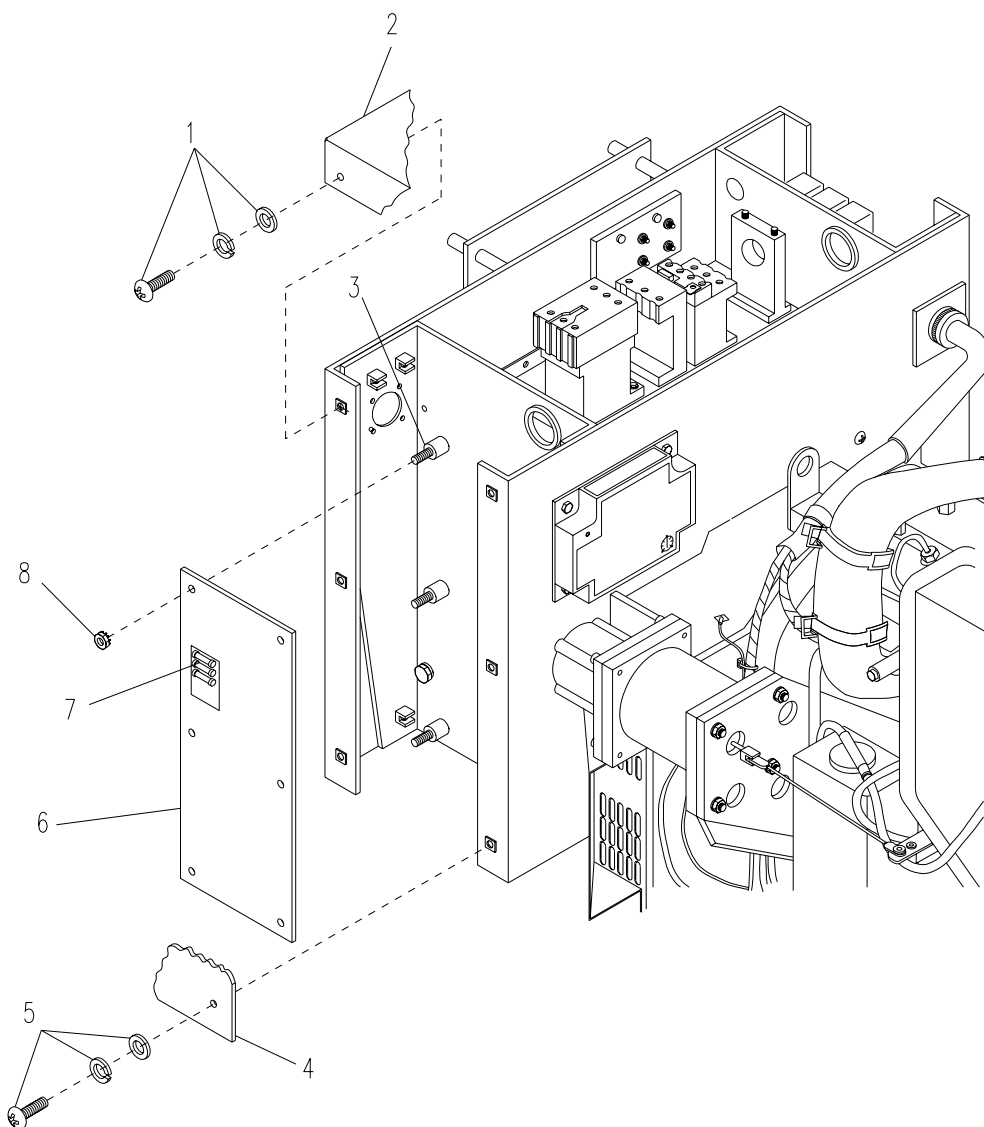

Figure 5-12. Relay Board
- a. Remove four screws (JTACS), or slotted hex-head bolts (SICPS and WIN-T), flat and lock washers (1, Figure 5-12) and remove generator housing top cover (2).
- b. Remove four screws (JTACS), or slotted hex-head bolts (SICPS and WIN-T), flat and lock washers (5) and generator housing side cover (4).
- c. Inspect fuses F1, F2, and F3 (7) on relay board (6).
- d. Replace blown fuses (7).